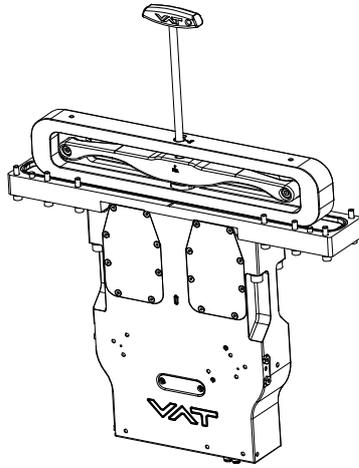

Figure 6-5
5. Loosen the screw for the gate (5), use convenience tool (4).
6. Grasp the gate (5), by using the convenience tool (4) into the M8 thread: see «Figure 6-5».